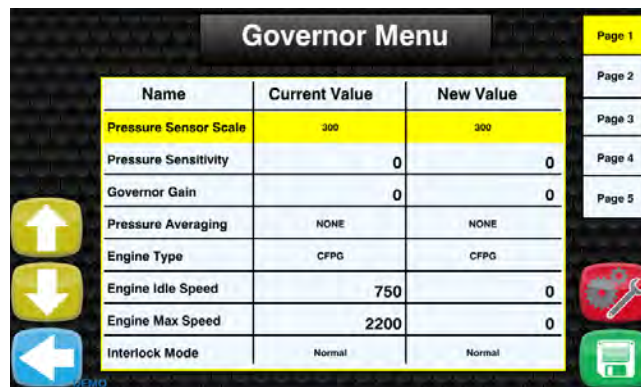

Figure 153. Governor Menu Screen
- D. When Governor Menu (Figure 153) appears, touch Page 2 button.